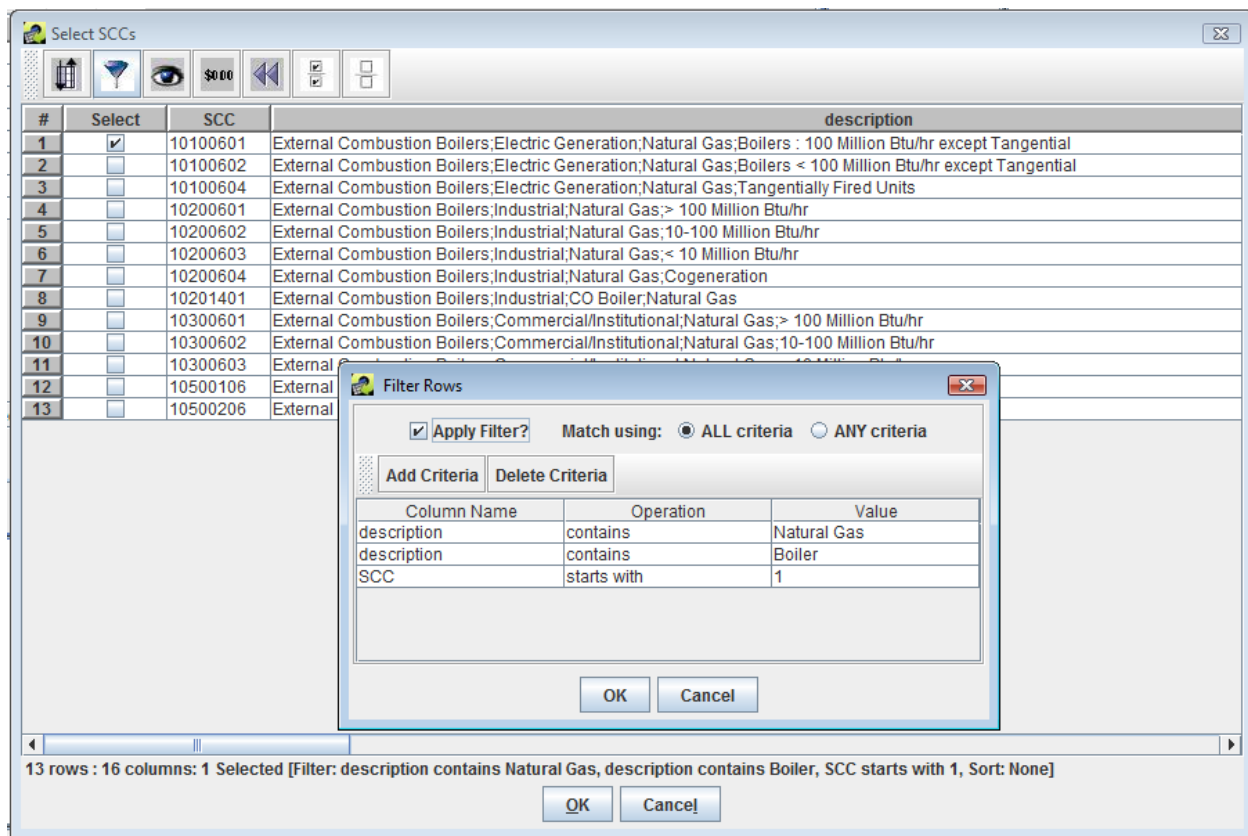

Figure 3.22: Select SCCs and Filter Rows Dialogs
To add new SCCs, click the **Add** button to display the **Select SCCs** window (Figure 3.22). Note that there are over 11,900 possible SCCs to use for developing control measures. The number of available SCCs can be found in the lower left hand corner of the **Select SCCs** dialog.
The **Select SCCs** window will show only the SCCs that met the above criteria, such as the 13 SCCs shown in Figure 3.22. While many of these SCCs are already associated with the measure (i.e., they are already shown on the **SCCs** tab of the **Edit Control Measure** window
**Step 6-1: Find Control Measures for SCCs.** Before using the Find feature, set the **Pollutant Filter** (in the top left corner of the Control Measure Manager) to **Select one**, and click the **Reset** button on the toolbar, so that no pollutant or other filters will be applied prior to performing the next step. Click the **Find** button. You will see the Select SCCs window, similar to the one shown in Figure 3.22, except that all 11,900+ SCCs will be shown.